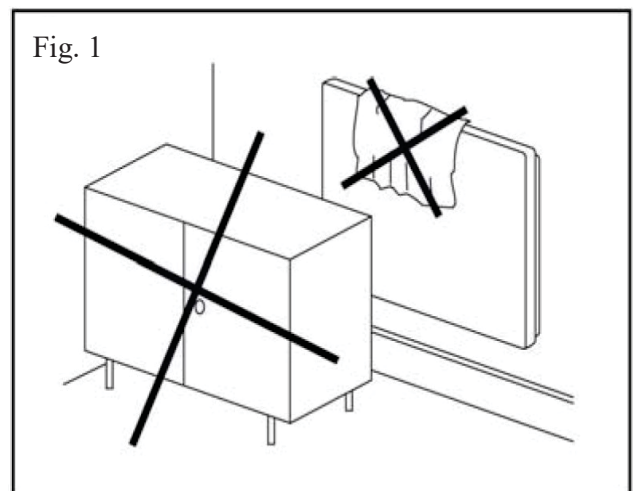
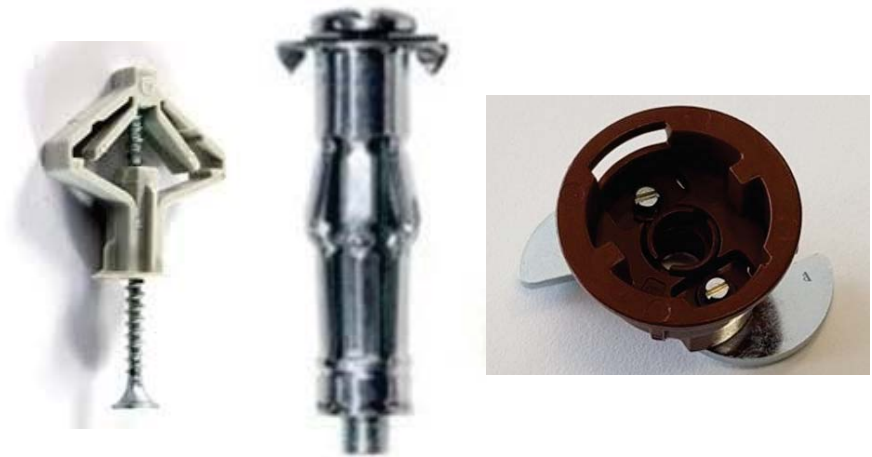

Fig.2
Fig.3
- **It is forbidden to use wall anchors with a self-tapping thread to attach panels to plasterboard/gypsum fibreboard ceilings, see Fig. 2. Examples of suitable types of wall anchors can be seen in Fig. 3.**